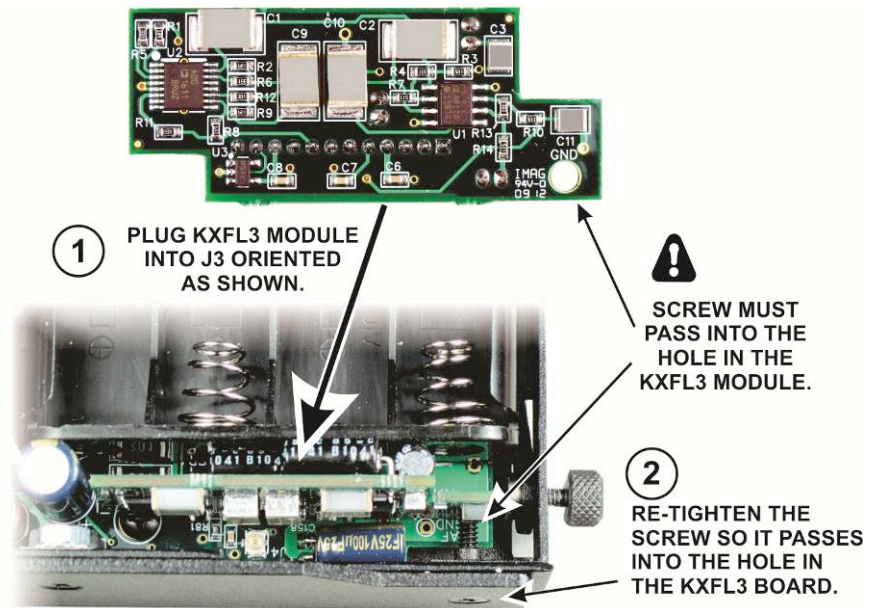

Figure 7. Replacing the KXFL3 module in the KX3.
- Replace the KXFL3 module in the KX3 and tighten the screw that retains the board as shown in Figure 7. The screw is there only to ensure the KXFL3 module cannot be dislodged by rough handling of the KX3. It does not provide a ground return or other function.